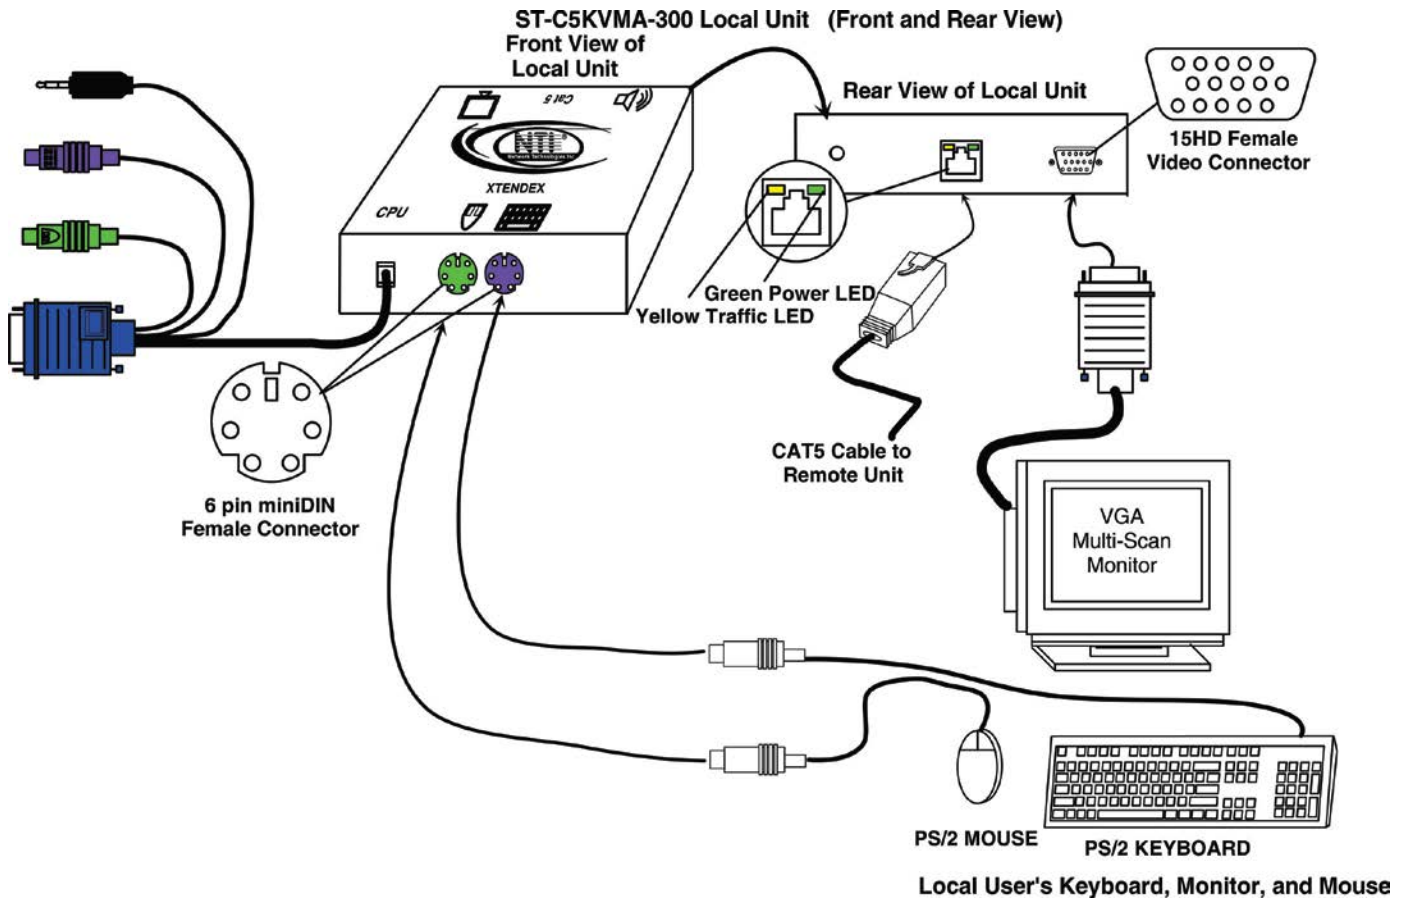

Figure 5- Connect the local user to the XTENDEX Local Unit
1. Make connections for a local user (see Figure 5).